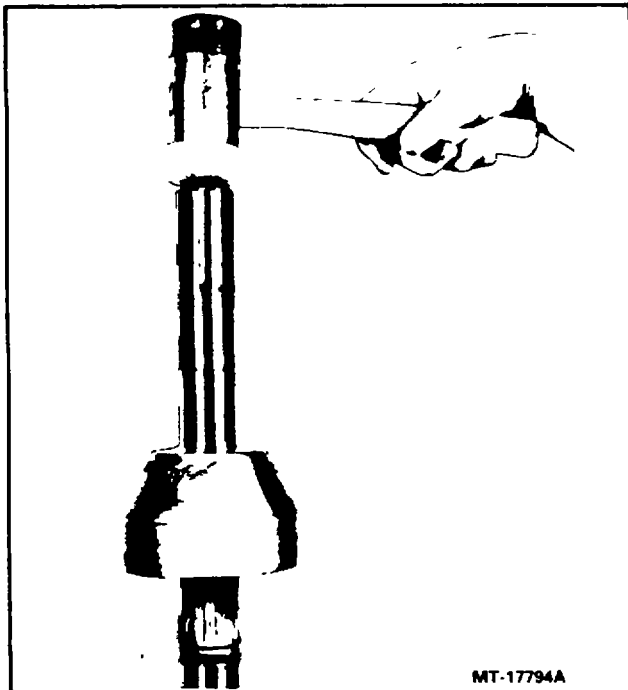

Fig. 19. Assembling Axle Shaft and Universal Joint
5. Place universal joint on top of axle shaft index end of axle shaft in splined inner race, Tap end of universal joint shaft with a soft faced hammer to collapse lock ring, securing assembly See Fig. 19.